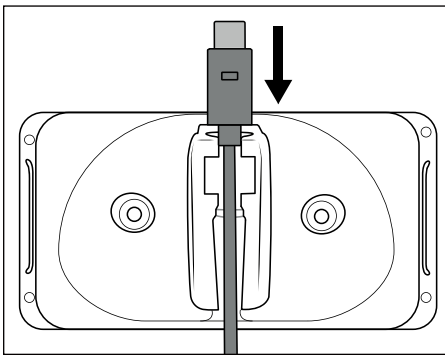
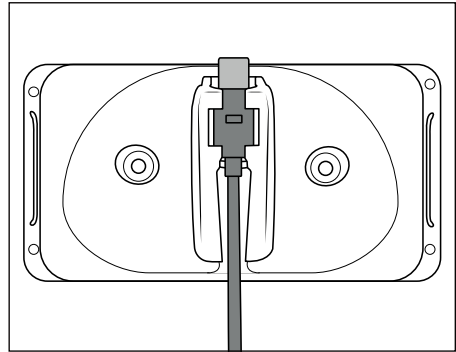

Fig. 1
Fig. 2
- Ensure that there are no power cables or other conduits or pipes in the wall at the location where you intend to bore the holes for the wall bracket ③. Drilling into a current-carrying electric cable can be potentially fatal!
- 1) Insert the USB-C plug ⑤ of the USB charging cable ④ into the wall bracket ③ (see Fig. 1). Push the USB-C plug ⑤ downwards until the groove on the USB-C plug ⑤ engages into the clip of the wall bracket ③ (see Fig. 2).